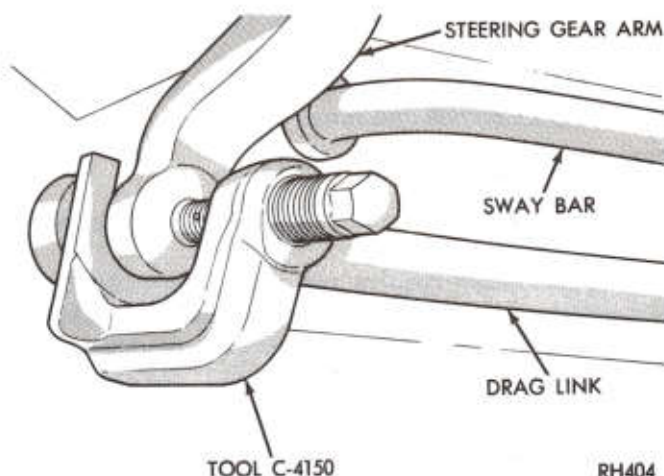

Fig. 23—Removing Drag Link with Tool C-4150
(1) Raise vehicle to a comfortable working height and install jack stands. Remove wheel cover and wheel and tire assembly.
(2) Turn wheels in direction necessary to give best possible access to drag link. Remove cotter keys and nuts.
(3) Install puller Tool C-4150 (Fig. 23). Apply sufficient pressure with tool to free drag link from steering knuckle arm and steering gear arm. Lower drag link from vehicle.